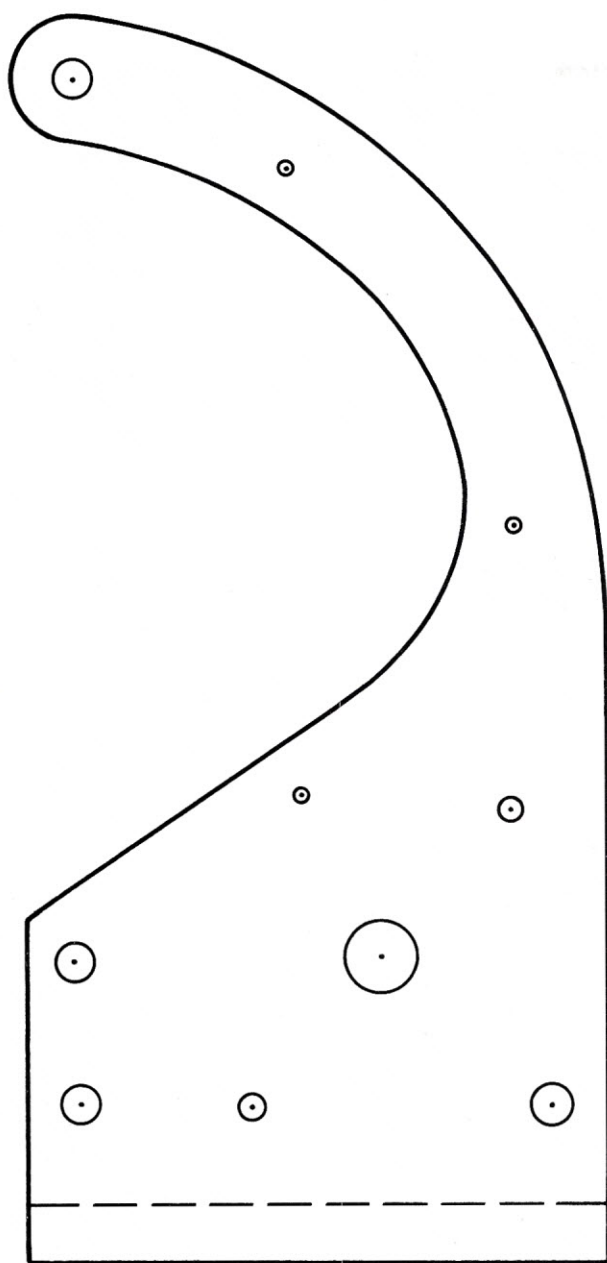

Figure 1: Template for the front finger plate.
The front and back finger plates (figures 1 and 2) are cut out of $\frac{1}{16}$ -inch sheet aluminum with a metal cutting bandsaw. The radii are finished with a small grinding wheel. Each finger plate's bottom has a 90-degree tab formed by clamping the plate in a vise with about $\frac{3}{8}$ inch protruding from the
- Two front finger plates made from $\frac{1}{16}$ inch sheet aluminum (see figure 1).